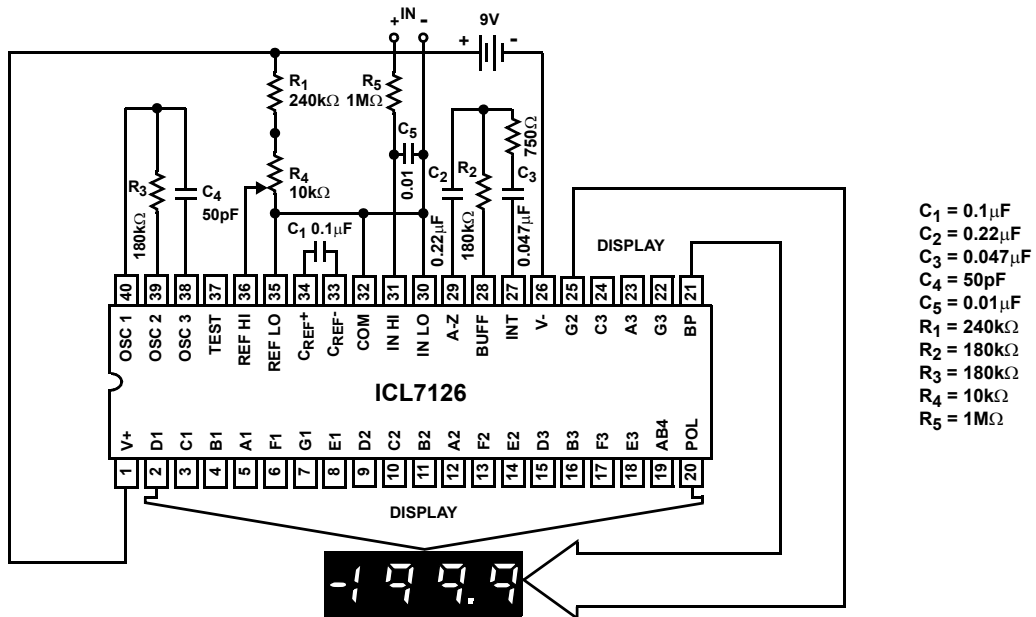

FIGURE 1. ICL7216 TEST CIRCUIT AND TYPICAL APPLICATION WITH LCD DISPLAY COMPONENTS SELECTED FOR 200mV FULL SCALE
3. Unless otherwise noted, specifications are tested using the circuit of Figure 1.